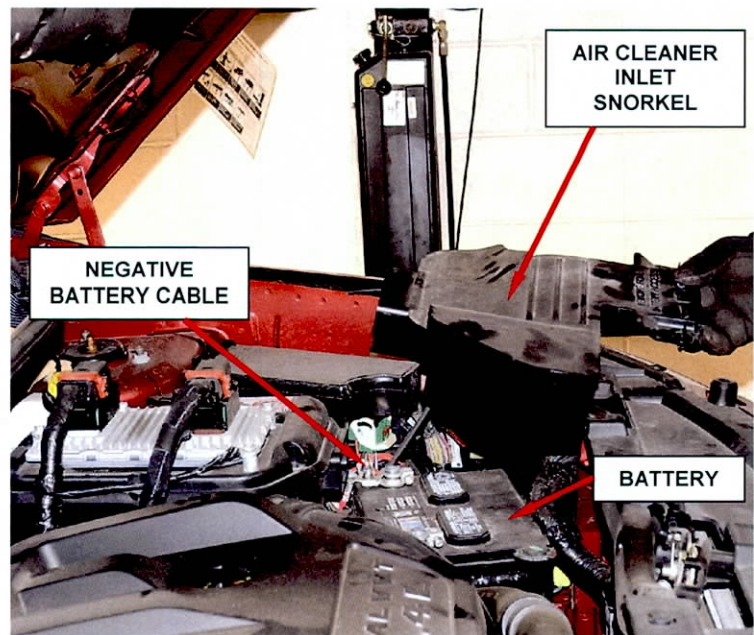

Figure 3 – Air Cleaner Inlet Snorkel
2. Remove the air cleaner inlet snorkel (Figure 3).
3. Disconnect and isolate the negative battery cable (Figure 3).
50. Install the air cleaner inlet snorkel (Figure 3).